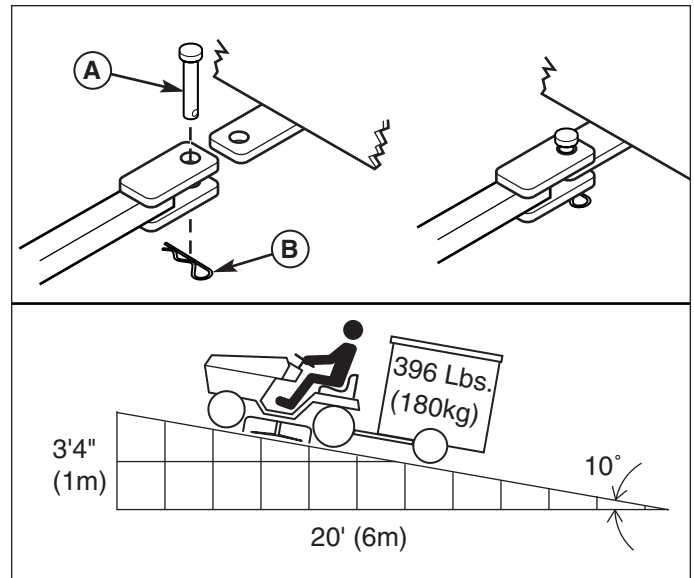

Figure 5. Trailer Weight Recommendations
The maximum horizontal drawbar force allowed is 444 Newton. The maximum vertical drawbar force is 222 Newton. This equates to a 396 lbs (180 kg) trailer on a 10 degree hill. Secure the trailer with an appropriately sized clevis pin (A, Figure 5) and clip (B).